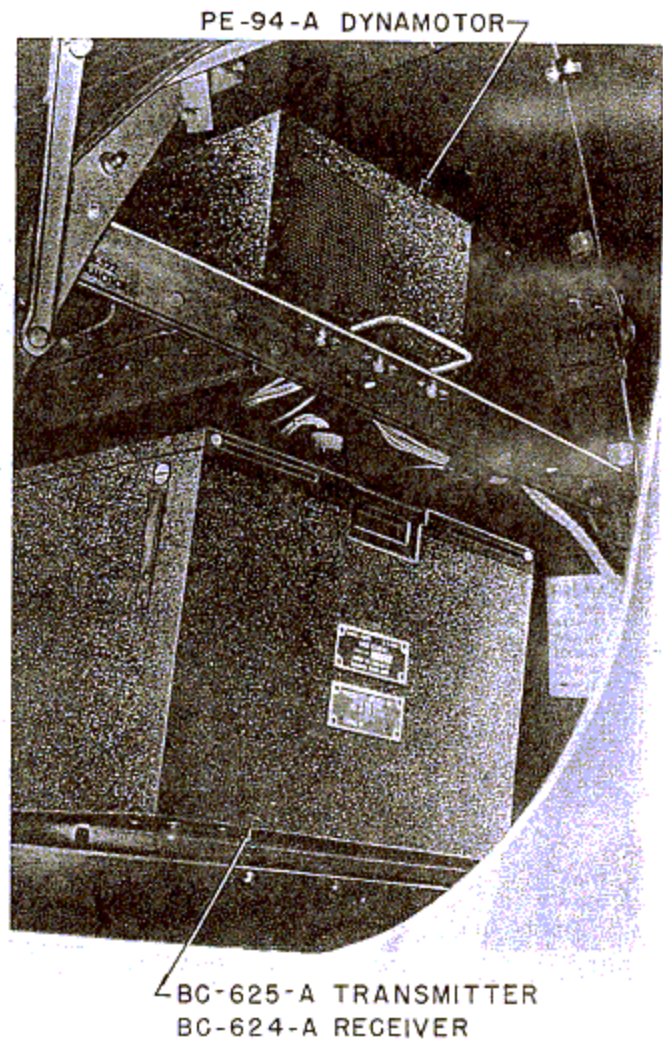

Figure 273—SCR-522 Radio
(4) SCR-522-A RADIO. (See figure 273).